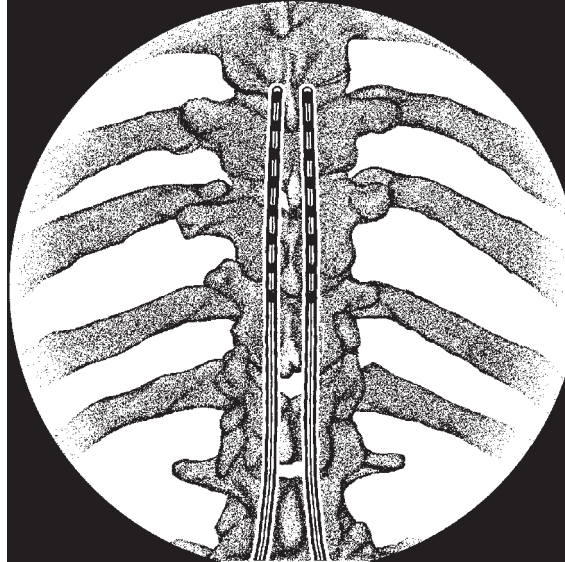

FIGURE 16
- 12 If you are using two trial leads, place the second lead in the desired location (FIGURE 16). The lead tips may be at the same vertebral level, or the tips may be staggered. Optimal lead positions will be determined during intraoperative test stimulation.